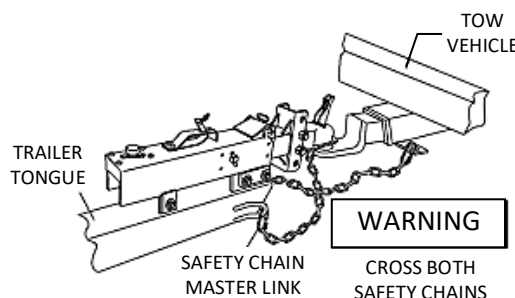

Figure 2-E. Attaching Safety Chain (Ball Hitch)
- Cross underneath the coupler. See Figure 2-E.